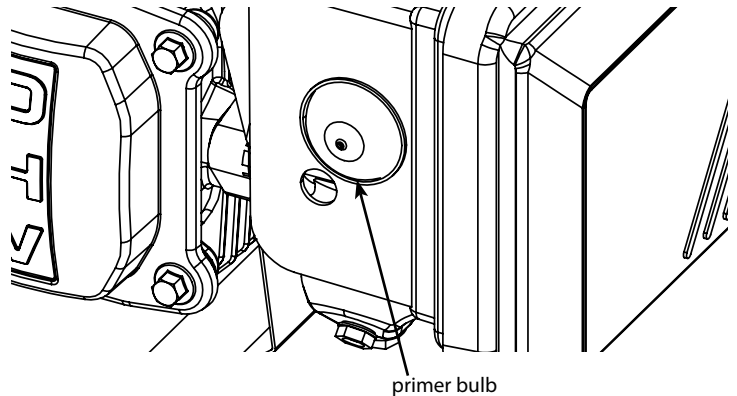

Figure 3: Primer bulb
4. Press primer bulb three times. Let bulb fully recover between each depression. **SEE FIGURE 3.**